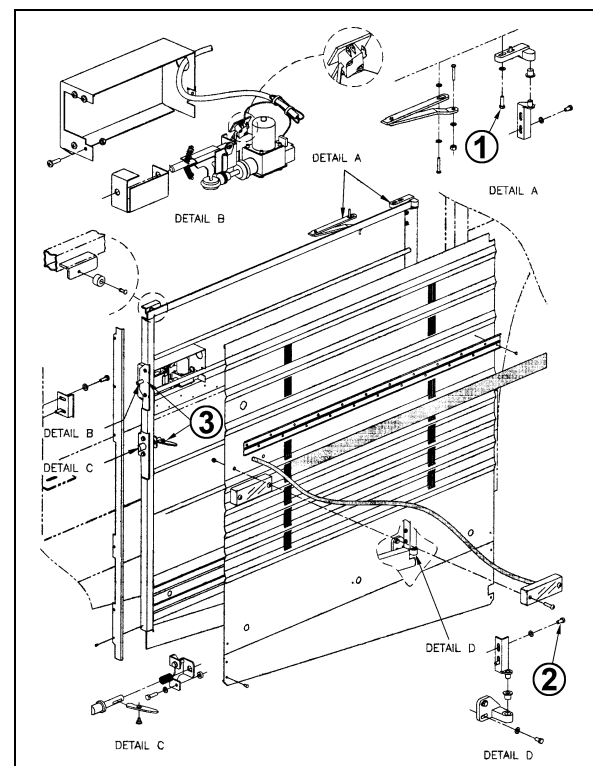

FIGURE 71: ENGINE COMPARTMENT R.H. SIDE DOOR 18635
1. Loosen the bolts, (1, Fig. 71) holding the hinge to the vehicle structure to shift the door "IN or OUT" and "UP or DOWN".
2. Loosening the bolts (2, Fig. 71) allows the door to be shifted "LEFT or RIGHT" and "UP or DOWN".
To adjust the latch mechanism (3, Fig. 71) and the striker pin: